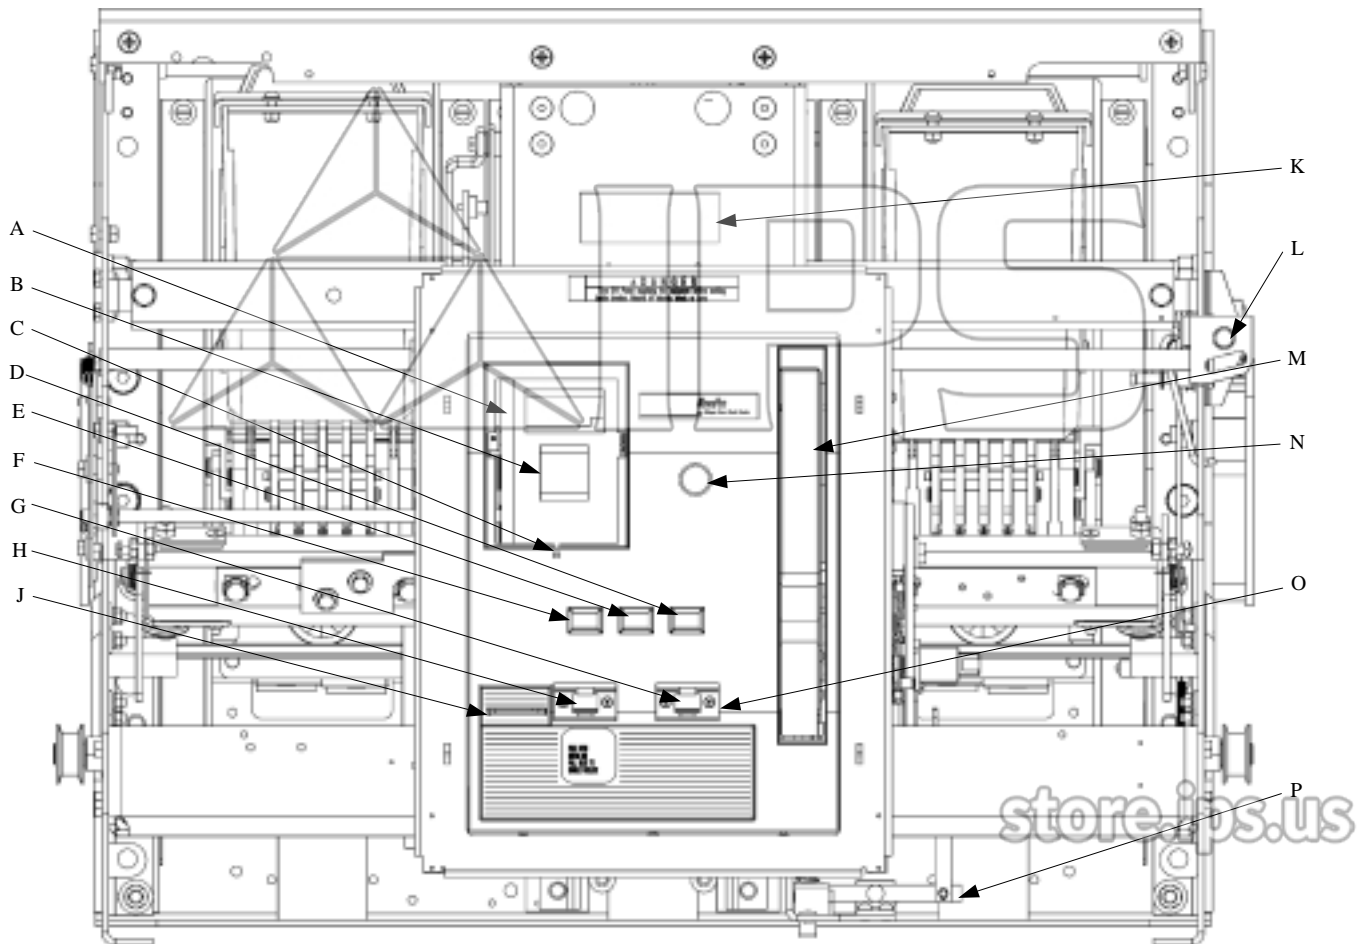

Figure 1. Front of the WavePro circuit breaker, showing the locations of standard and optional features.
WavePro circuit breakers are equipped with the standard and optional features illustrated in Figure 1. The letters are keyed to the list below the figure.
- Open the compartment door and pull out the rails. Depress the spring discharge lever, indicated in Figure 1, to discharge the breaker's closing springs. Continue to depress this lever while pulling the breaker out to its Withdrawn position.